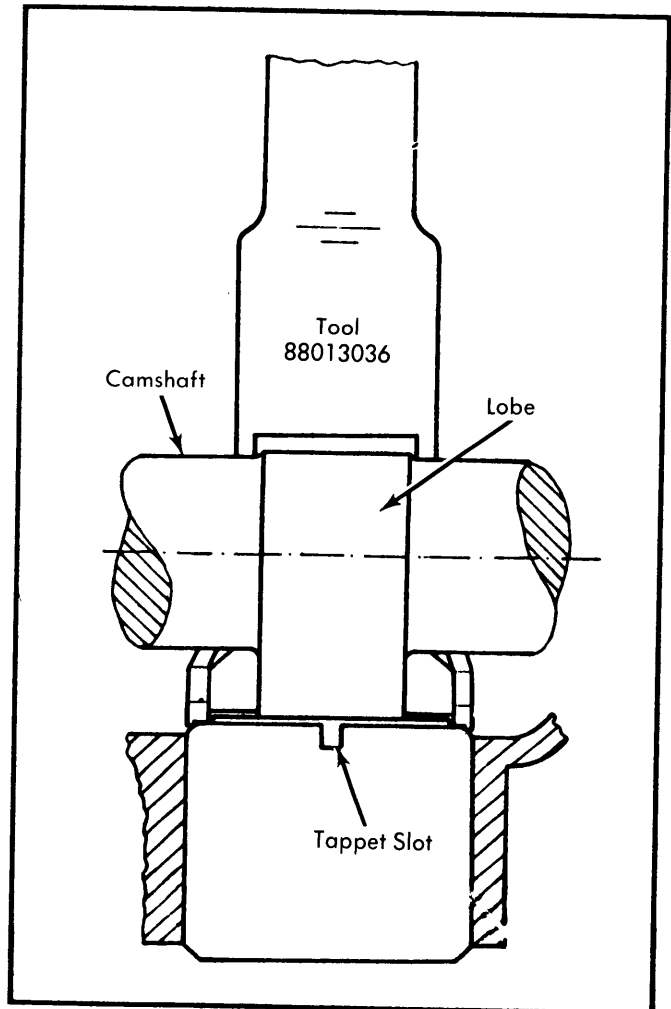

Fig. 4 Adjusting Valve Clearance
4) To adjust valves, turn crankshaft until piston of cylinder to be adjusted is in expansion stroke (cam lobe vertical). Turn tappets so slot (See Fig. 4) is toward side of engine. Turn crankshaft further so that valve to be adjusted is fully open. Attach suitable tool (88013036) between camshaft and tappet and secure against housing.